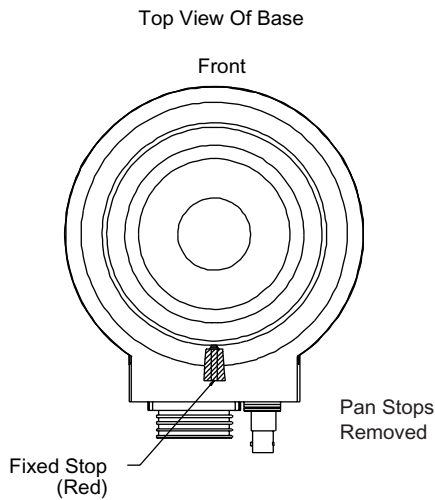

Figure 4: Maximum Manual Pan and Maximum Auto-Pan (345° Models)
The pan stops establish the limits for manual pan. The two (2) adjustable pan stops may be repositioned or removed depending on the desired operation. The maximum pan range setup is shown in **Figure 4**.